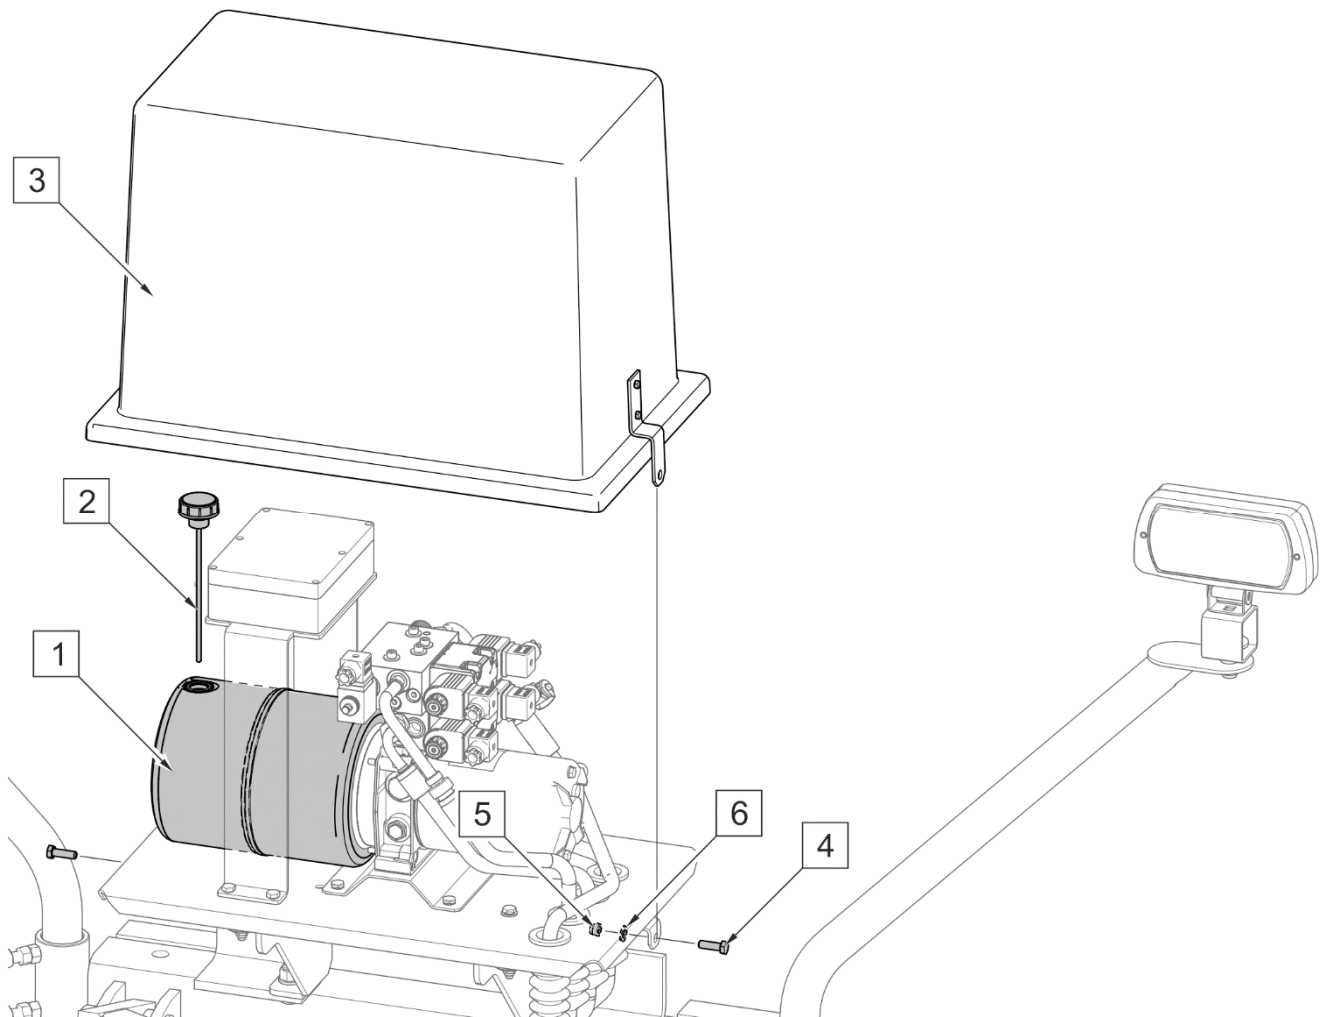

FIGURE 5.5 Checking oil level
(1) - oil tank; (2) - filler plug with an oil level dipstick; (3) - housing; (4) - M8x25 bolt; (5) - M8 nut; (6) - washer 8
The oil tank of the electro-hydraulic power supply (FIGURE 5.5) is located under the housing (3). Before checking oil level, set the snowplough in such a manner as to ensure that the oil tank (1) is positioned horizontally,
- unscrew nuts (5) and remove housing (3),
- unscrew filler plug (2) and check the oil level on the oil level dipstick.
- if necessary, supplement oil to the required level, tighten the plug (2) and install the housing (3).